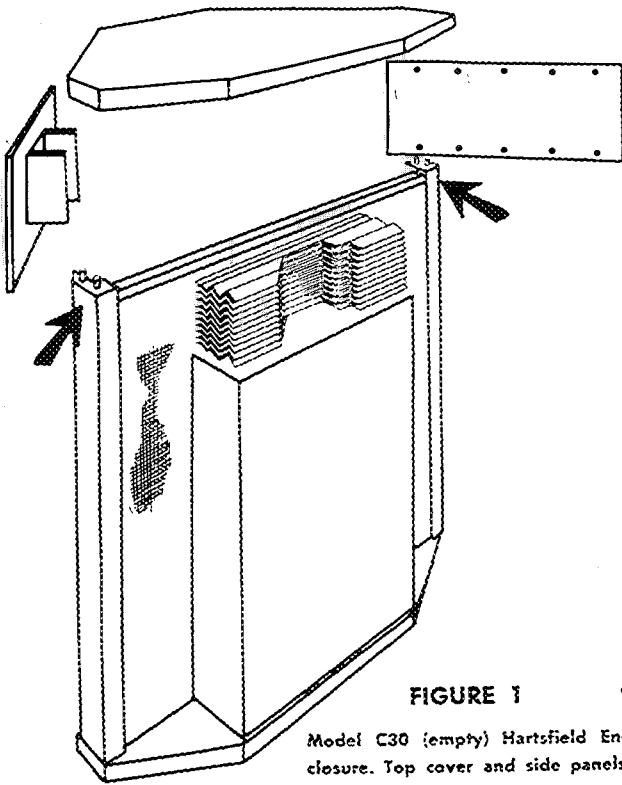

FIGURE 1
(1) Remove two **side panels**, loosening ten (10) #8 x 1½" long wood screws in each.
(2) The **top cover** is now secured at each of the front corners by two ¾" dowels. It can be lifted from the enclosure by exerting an upward force at these two corners (arrow position, Fig.1).